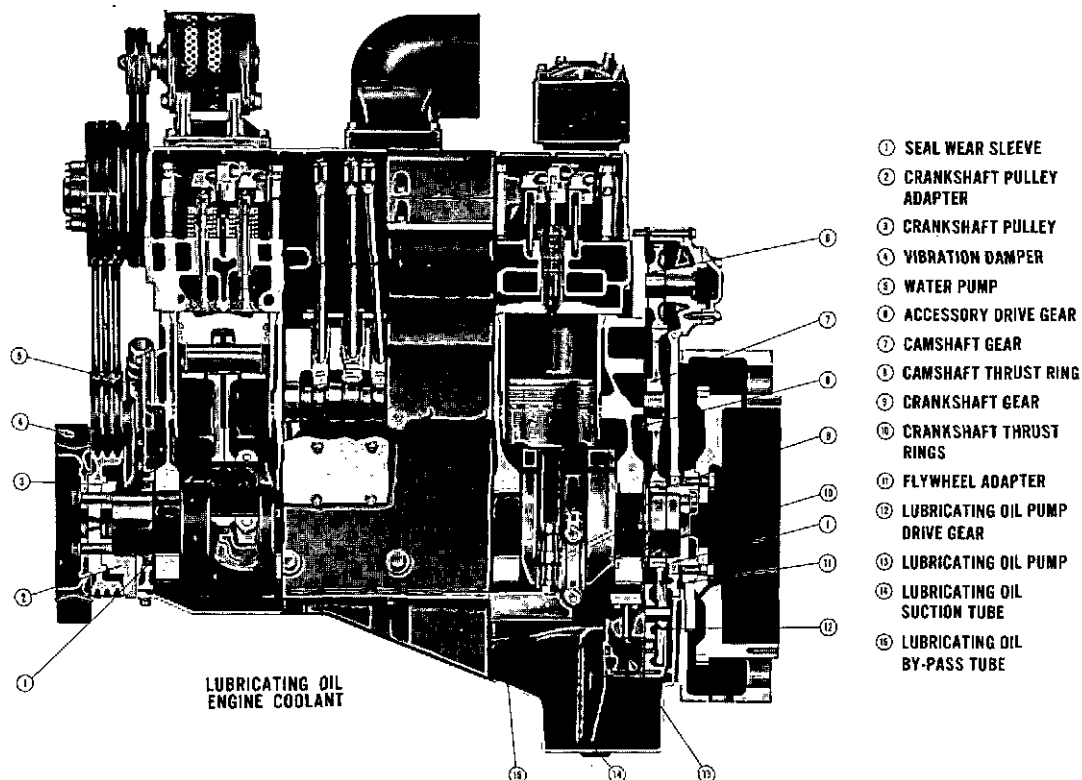

Fig. 5-18, (LWC-16). Lubricating oil and coolant flow — V-903
Oil drawn from pan sump through a screen is delivered to engine working components through oil lines and oil headers which are drilled the length of block. Drillings in block, cylinder head, crankshaft and rocker lever shafts complete oil circulation passages. Fig. 5-18 and 5-19.
1. Oil flows from cooler and filter to right bank of oil drilling at front of engine to front center of block. Oil flows through crossover at front of block to left bank and right bank main oil drillings (drilled length of block). Fig. 5-18.